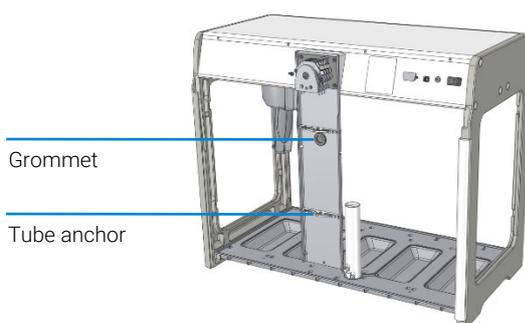

Figure 3 Routing the sample line tubing (SPS 4 shown)
- 9 Feed the free end of the sample line through the rubber grommet in the middle of the wash pump tubing plate as shown in Figure 3.